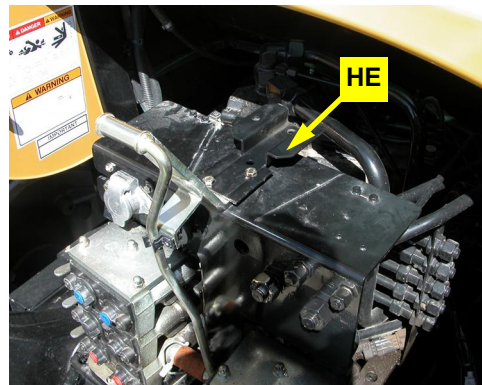

Figure 2b: Installed mounting bracket
- b. Use the existing bolts with provided flat washers **HF** to secure mounting bracket **HE** to the tractor (Figure 2b).